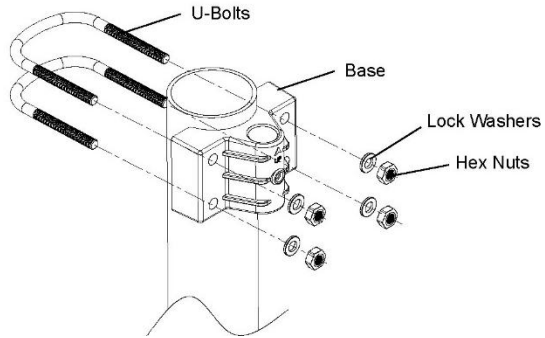

Figure 8: Sensor package mounting diagram 5-1
1. Install the base on a pole (1.25inch~2inch) as Figure 8.